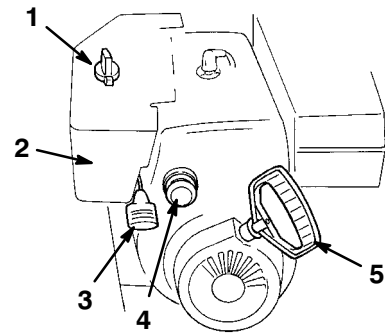

Figure 15
- **Choke** (Fig. 15)—Move the choke to the *Full* position to start a cold engine. As engine warms up, gradually move the choke to the *Off* position.
- **Ignition Switch** (Fig. 15)—Insert the key before starting the engine. To stop the engine, remove the key.
- **Throttle** (Fig. 15)—Move the throttle upward to increase the engine speed; move it downward to decrease the engine speed.
- **Primer** (Fig. 15)—Press the primer to pump a small amount of gasoline into the engine for improved cold-weather starting.
- **Recoil Starter** (Fig. 15)—Pull the recoil starter to start the engine.
2. Remove the key from the ignition switch (Fig. 15).
3. Pull the choke knob off (Fig. 15).
1. Move the throttle to the *Fast* position (Fig. 15).
4. Rotate the choke (Fig. 15) to the *Full* position.
5. Insert the ignition key (Fig. 15).
6. Cover the hole in the center of the primer (Fig. 15) with your thumb and slowly push in the primer three times, pausing after each push.
7. Grasp the recoil starter handle (Fig. 15) and pull it out slowly until positive engagement results; then pull the handle vigorously to start the engine.
9. After the engine starts, immediately rotate the choke (Fig. 15) to the $3/4$ position. As the engine warms up, rotate the choke to the $1/2$ position. When the engine warms up sufficiently, rotate the choke to the *Off* position.